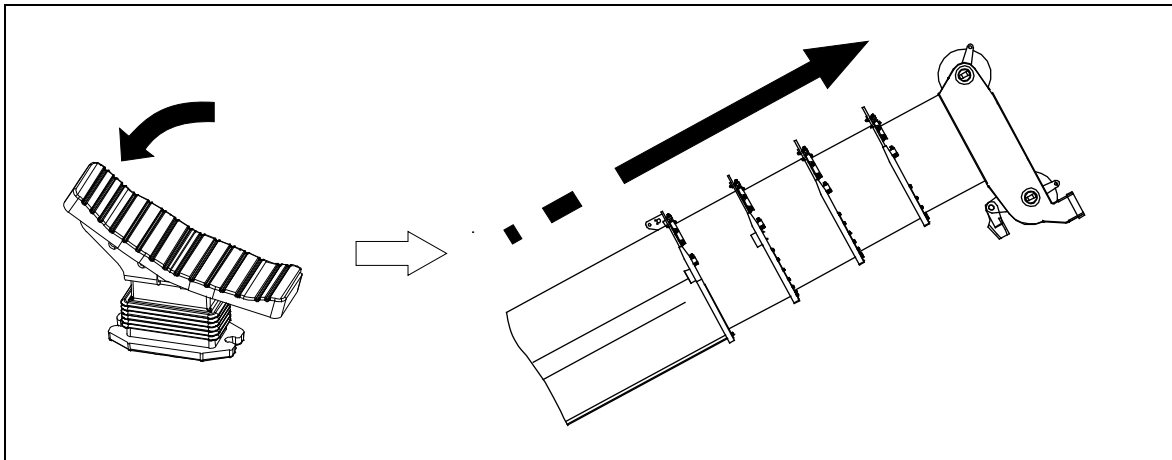

Figure 7-13 Telescopic Sections – Extend
- C. When you tilt the pedal forward, the telescopic sections 1, 2 and 3 move out at the same time. Refer to Figure 7-13.